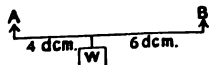

Fig. 66.
3. Two horses *A* and *B* are attached to an "evener" one meter long, as shown in Fig. 66. What part of the load *W* does each horse pull?